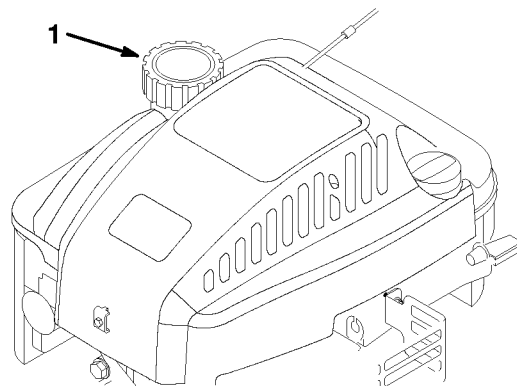

Figure 34
6. Fill fuel tank (Fig. 34) with fresh, clean gasoline.